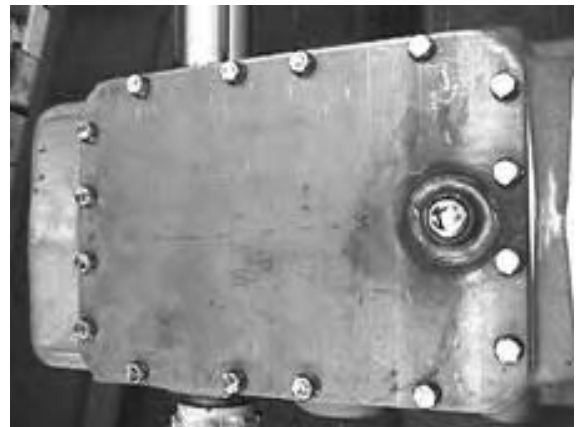

Fig. 93
54. Install the housing cover plate using split lock-washers and Loctite #272 on the threads. Torque to spec. See Fig. 93.